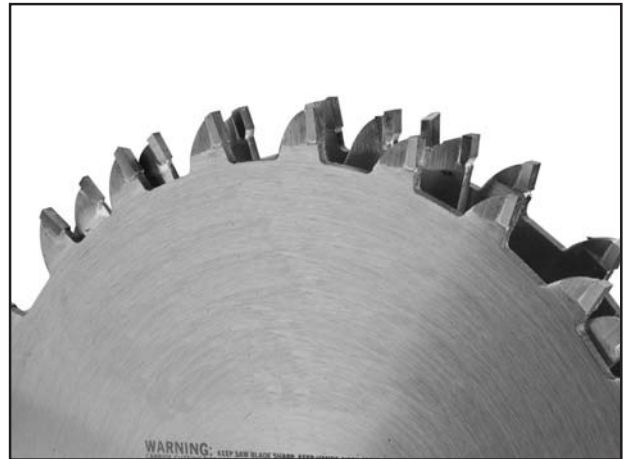

Figure 41. Stacked dado blade.
- **Stacked Dado Blade:** These dedicated dado cutting blade sets consist of up to 8 individual blades. Multiple cutters are "stacked" between two outside blades. The width of the dado is determined by the combination of cutters that are "stacked" together. The dado is cut in a single pass leaving a smooth and square channel in the face of the workpiece. Stacked dado blades are the most expensive option, but are worth considering if your projects require a lot of visible dado cuts. A stacked dado blade is shown in **Figure 41**.